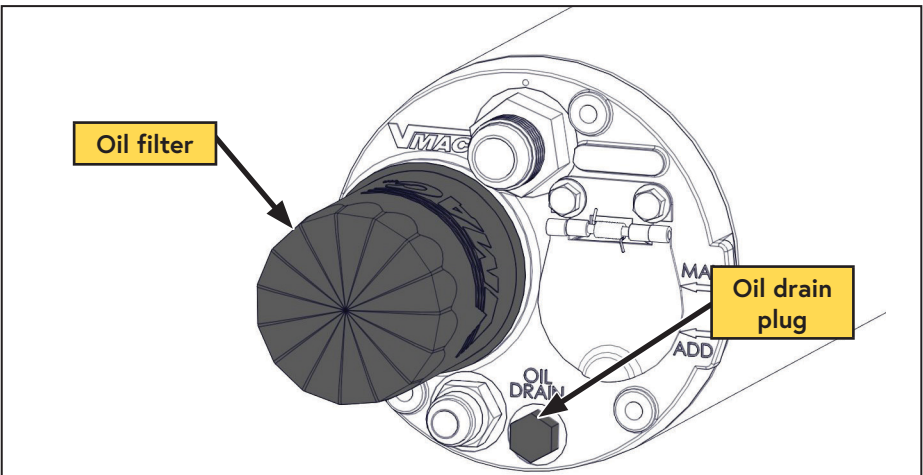

Figure 23 — Compressor oil maintenance
- ☐ Remove the oil drain plug and drain the oil into a container with a capacity of at least 6 L (1.6 USG) (Figure 23).
- ☐ Remove the oil filter (Figure 23).